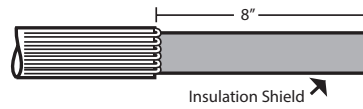

Fig. 3 - Cut Cable
C. Cut the excess cable off square and even with the center line of the bushing. See Figure 3.